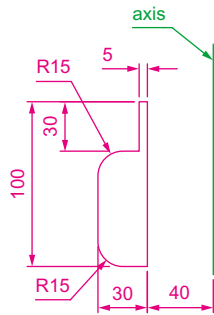

Fig. 14.8 Example of constructing a 3D model – outline for solid of revolution
- Construct the outline to be formed into a solid of revolution (Fig. 14.8) on a layer colour magenta and with the **Revolve** tool, produce the 3D model of the outline.